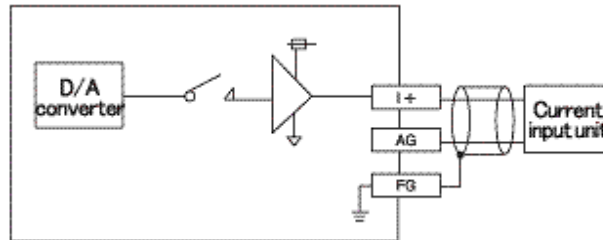

Figure 3.8
Figure 3.8 details a typical connection to one of the eight (8) 4 to 20ma output connections. See Appendix B for a complete list of terminal connections on the optional 4 to 20ma output block.